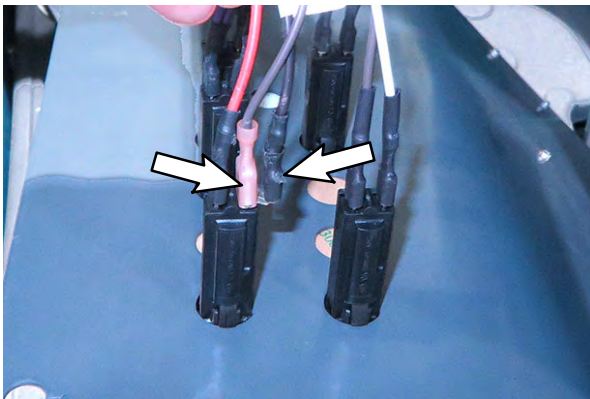
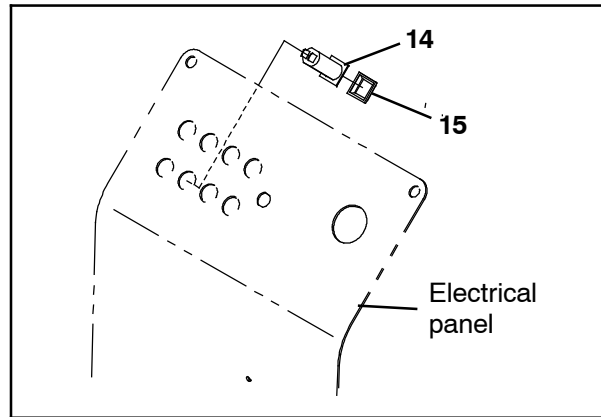

FIG. 8
FIG. 9
13. Disconnect the main wire harness 102C lead from circuit breaker 14. (Fig. 8)
14. Connect blue spotlight harness (3) T3 lead to circuit breaker 14 terminal where the main wire harness 102C lead was previously connected. (Fig. 8)
15. Connect the previously disconnected main wire harness 102C lead to blue spotlight harness (3) T3 lead open terminal. (Fig. 8)
16. Install the circuit breaker boot (15) onto the 2.5- Amp circuit breaker (14).
17. Insert the 2.5- Amp circuit breaker (14) into electrical panel circuit breaker location 18. (Fig. 9)